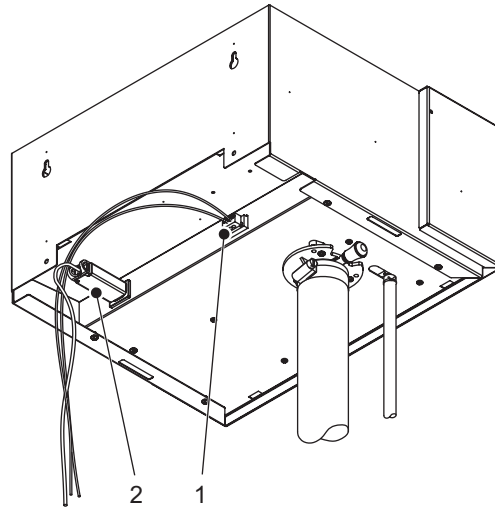

Figure 13: Blower Pack Electrical Connections
- a. Plug the power and security loop cables (supplied) into the back of the blower pack. Refer to Figure 13.